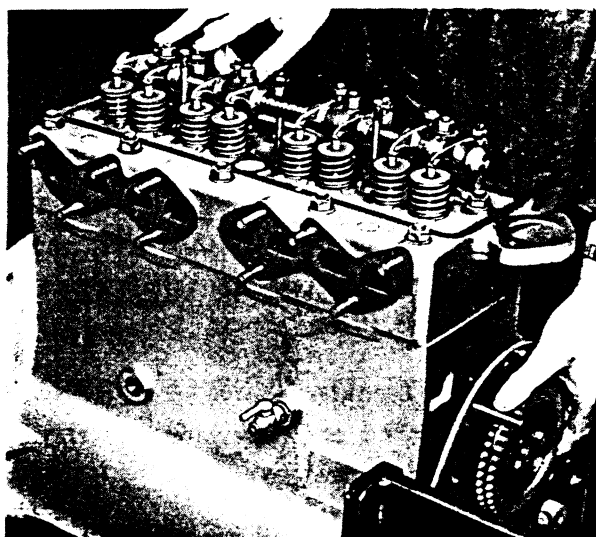

FIG. 26
4. Lightly press No. 4 cylinder rocker adjusting screw into push rod cups, and rock camshaft sprocket gently backwards and forwards as shown in Fig. 26 to check whether the introductory condition applies.